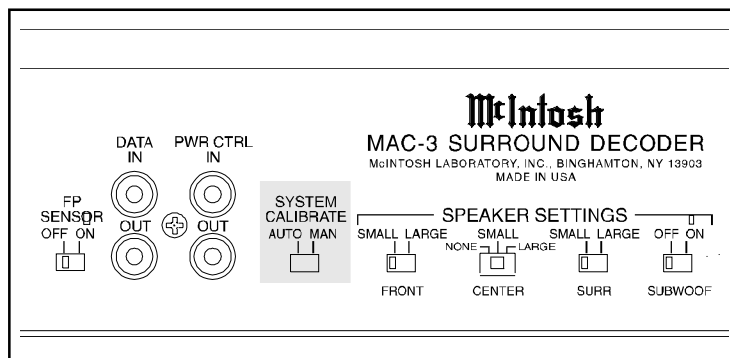

Figure 4
*The built-in calibration should be used primarily when the MAC-3 is used in a stand alone system. When in the System Calibration mode, it is most convenient to make level adjustments from the listening area with the optional HR39/HR130 Remote Control. The MAC-3 VOLUME control can also be used to adjust levels. A sound level pressure meter may be used to obtain a more accurate calibration. Refer to Figures 4 and 5 for the followings steps.*